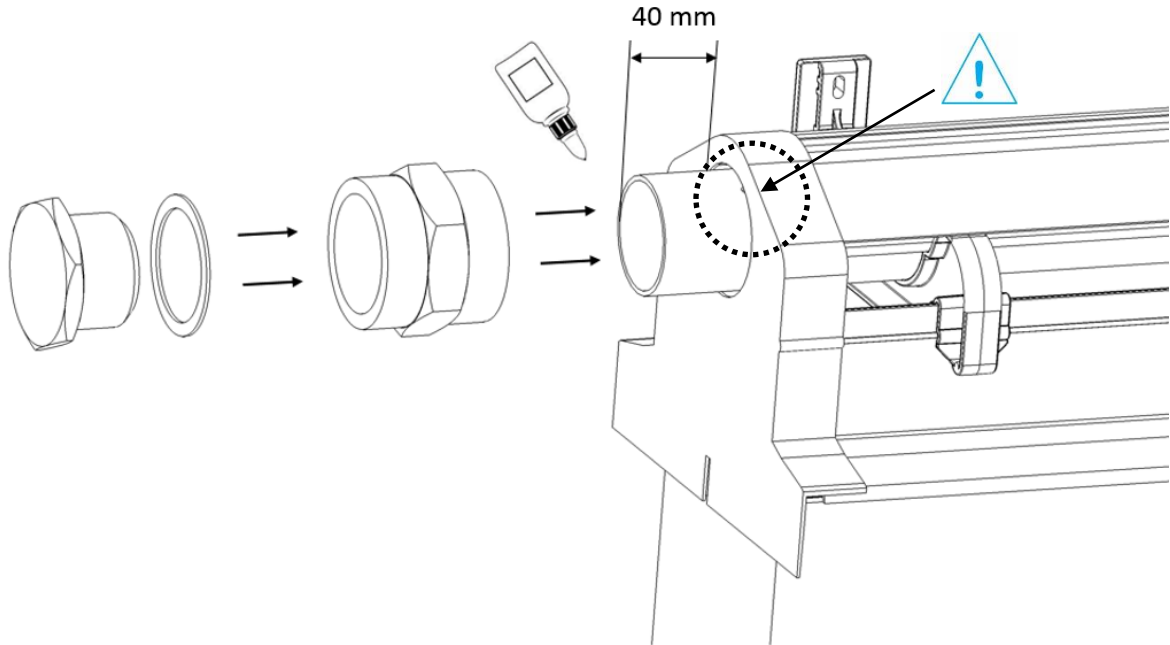

Figure 34
Proceed with attaching the Adaptor Socket [ref. 22] to the Pipe by using glue (not provided in the kits). Then insert the Plug + Gasket [ref. 21] into the Adaptor Socket. See Figure 34. No need to use Teflon tape, use the gaskets.